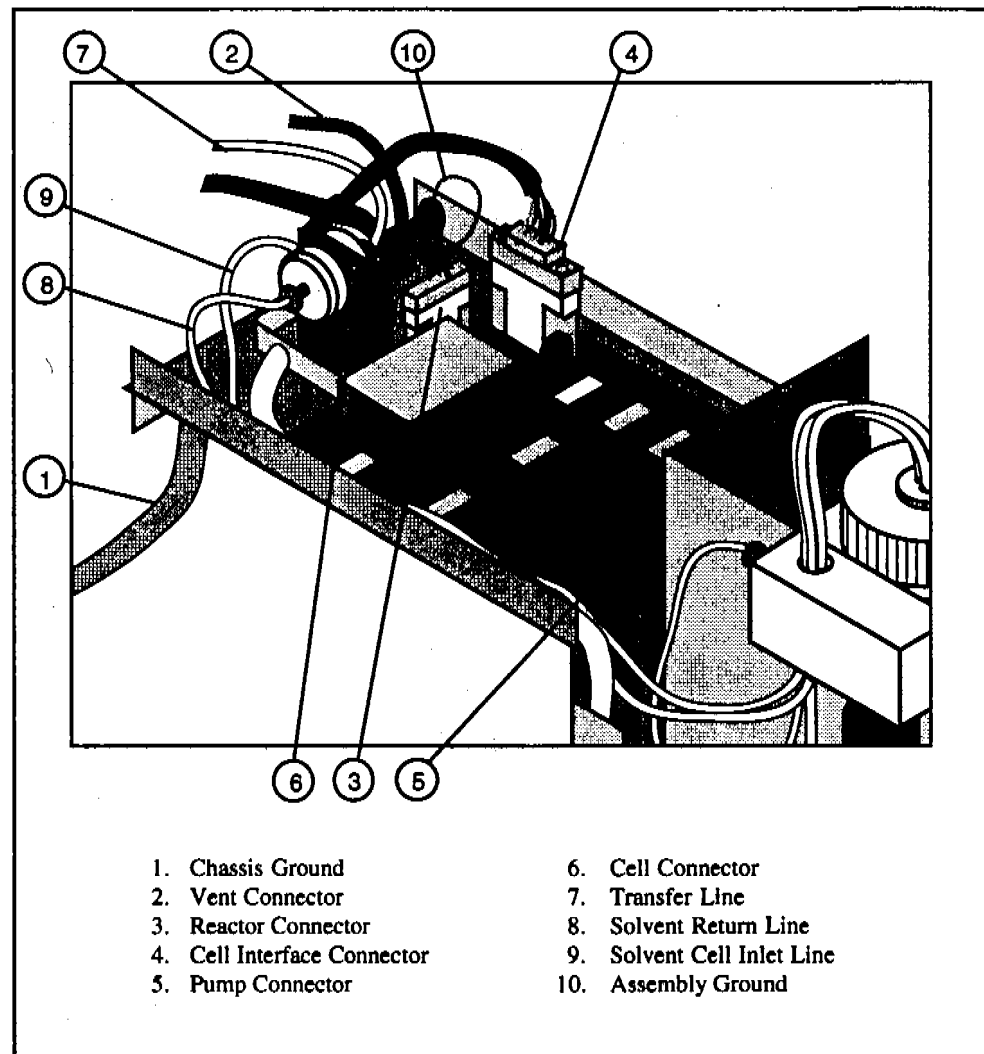

Figure 2.3. Cell/Solvent Assembly - Top View
- With the upper right GC cover put back in place, hang Cell/Solvent Assembly over right side of GC so that the tab on Assembly locks under the GC cover. (see Fig. 2.3).
- Plug in Reactor Power Connector (Part #231365) from the Reactor to the connector on the Cell Amplifier Board. (see Fig. 2.3).
- Plug in Vent Power Connector (Part #214890) from the Vent to the connector on the Cell Amplifier Board. (see Fig. 2.3).
- Plug in Ground Lead. (see Fig. 2.3).
- Plug in Cell Interface Connector (Part #216010). (see Fig. 2.3).
- Finger-tighten 1/16" Male Knurled Nut and Transfer Line into the Cell as in Fig. 2.3.